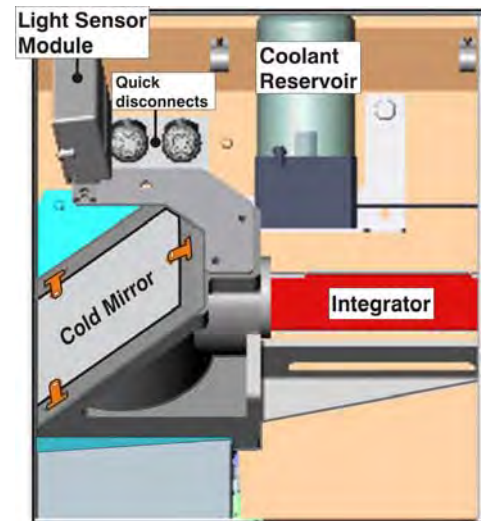

Figure 5-21 IOS Compartment
4. From the other two tabs, *loosen* one 3/32" screw from each and *remove* one 3/32" screw from each. This allows the tabs to be swung out of the way without fully removing them (**Figure 5-21**).